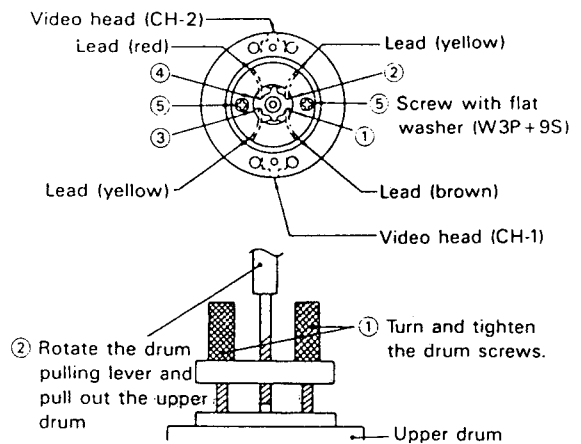

Figure 1-28.
• **Replacement (See Fig. 1-28)**
1. Unsolder the leads ① to ④ from the video head and remove them.
2. Remove the two screws ⑤ (brass screws with washers) using a Phillips screwdriver.
1. Set a new drum for replacement, as shown in Fig. 1-28, and position the leads properly.